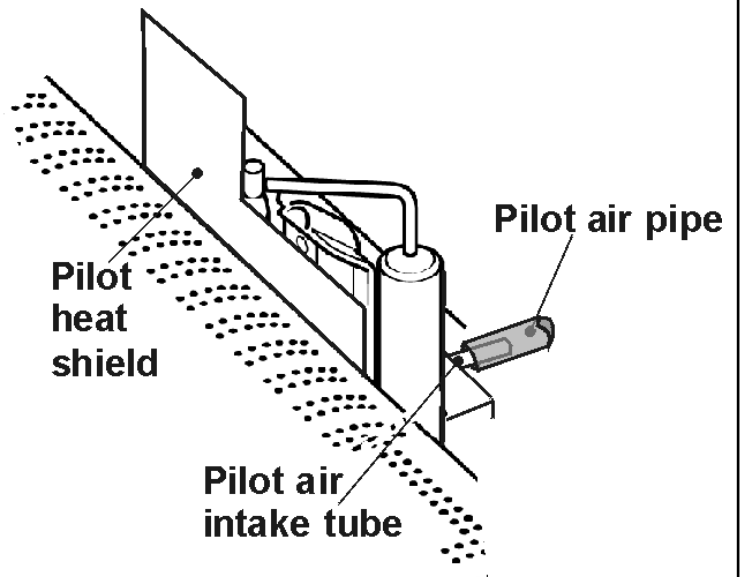

Figure 19. Pilot air pipe location
2. If the pilot is removed, when refitting, make sure that the pilot heat shield is in place between the pilot unit and the rear of the burner and is the correct way round (See figure 19).
Make sure that the air intake tube locates fully into the pilot air pipe attached to the back panel (See figure 19).